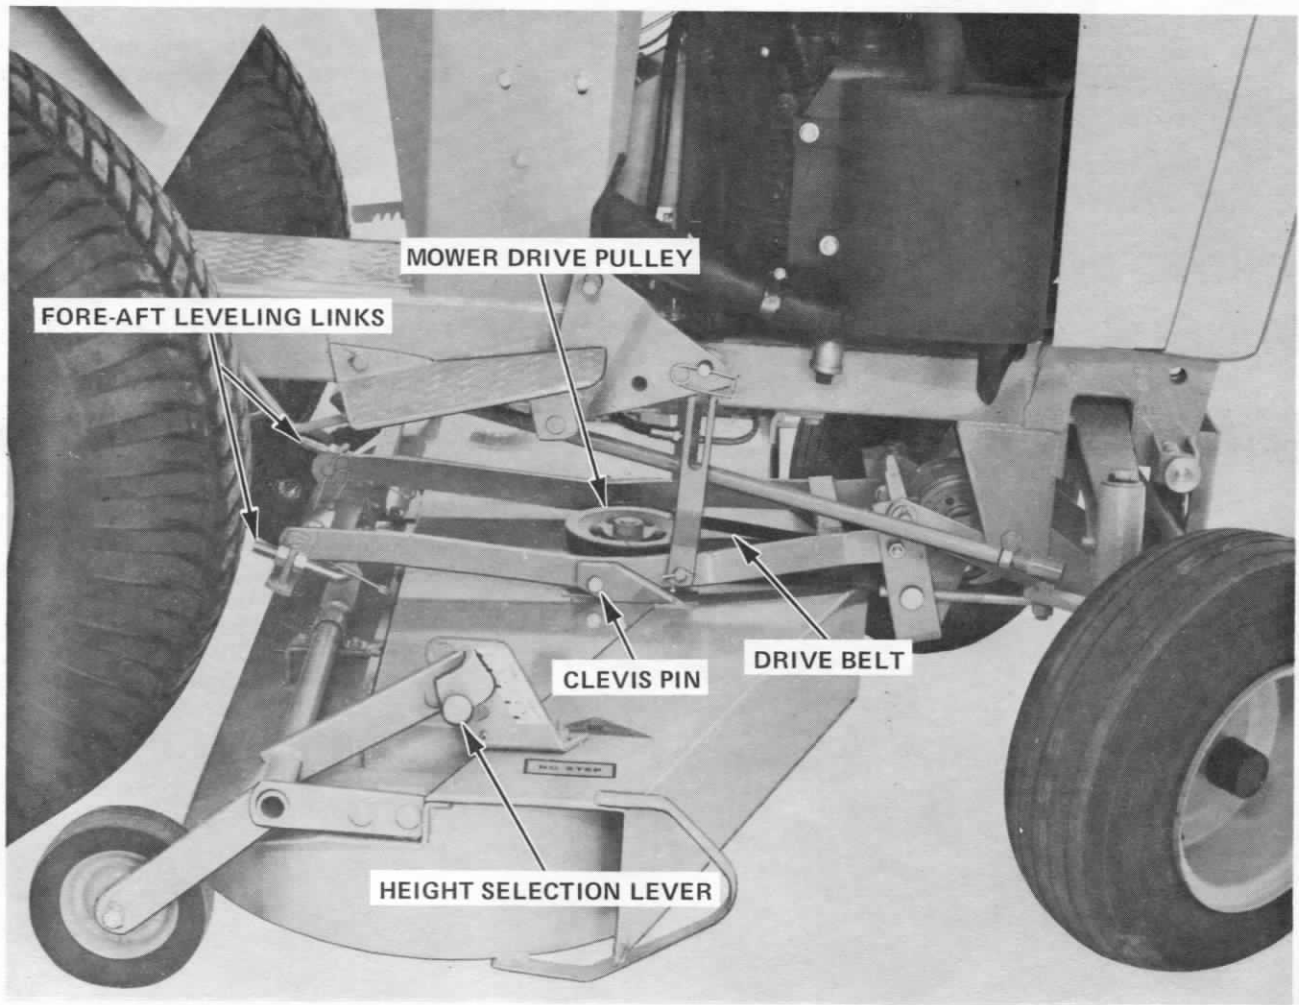

FIGURE 16 MOUNTING THE J-46 MOWER DECK
6. Place the height selection lever in the 1½" setting to gain additional clearance and slide the mower under the tractor from the right hand side and align the deck with the attaching holes in the mounting bracket. Lower the mounting bracket to the mower deck. Refer to Figure 16.
7. Install the Fore-Aft leveling links to the mounting bracket as illustrated in Figure 16.